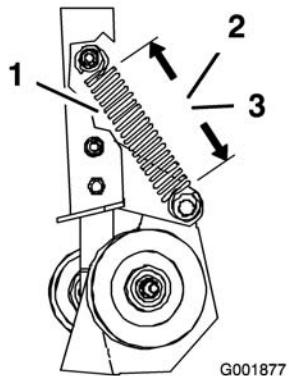
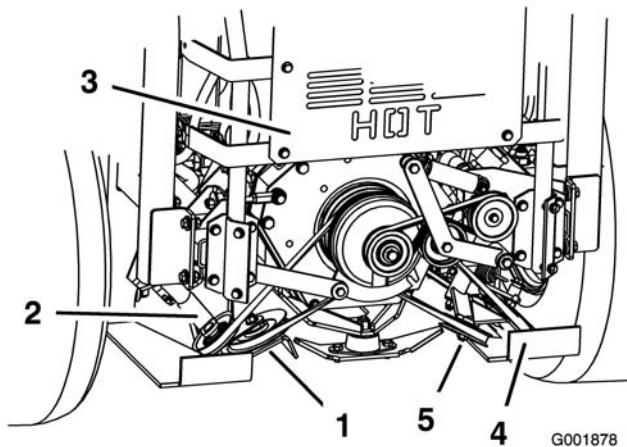

Figure 63
Figure 64
3. Measure the length of the spring. Check to make sure the coils of the spring on the spring-loaded idler pulley measures as listed below (Figure 63 and Figure 64).
- Left spring measurement: $5\frac{3}{4} \pm 1\frac{1}{8}$ inch (14.6 ± 0.3 cm) (Figure 63).
- Right spring measurement: $5\frac{1}{2} \pm 1\frac{1}{8}$ inch (14.0 ± 0.3 cm) (Figure 63).
4. If the spring does not have the correct measurement, loosen the nut holding the adjustable idler pulley so it can move up and down in the slot (Figure 64).
5. Relieve the pressure on the spring-loaded idler pulley (Figure 64).
6. Position the adjustable pulley lower in the slot and tighten the nut (Figure 64).
- Check to make sure the coils of the spring on the spring-loaded idler pulley have the correct measurement (Figure 63).